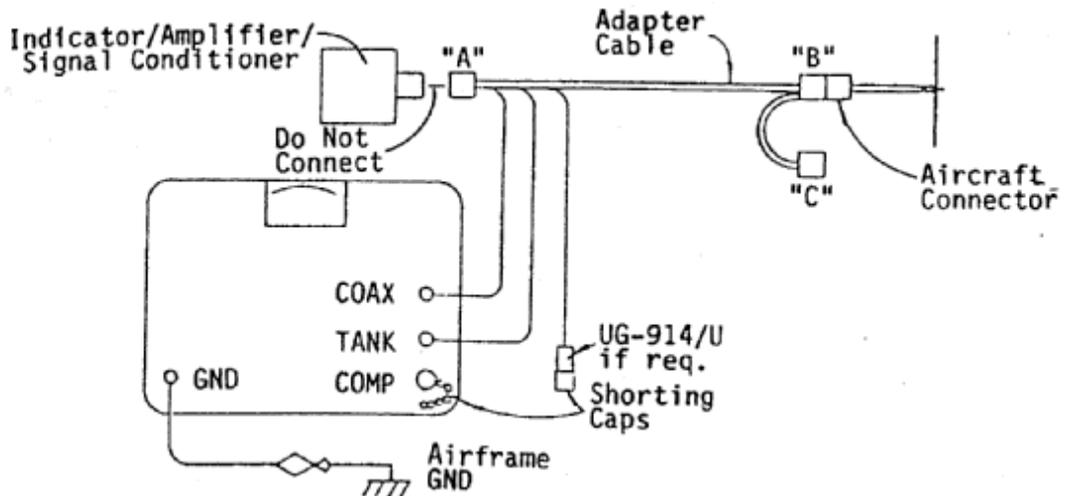

Figure 16 SYSTEM CALIBRATION (METHOD 1), CONFIGURATION #1 (MULTIPLE AIRCRAFT CONNECTORS)
(1) Setting “EMPTY” Adjustment - (Without adapter cables)
(2) Setting “EMPTY” Adjustment - (*With adapter cables*)
- (d) Refer to Figure 16, Figure 17 or Figure 18 and configure the amplifier and the aircraft connector accordingly.
- Figure 16 shows an adapter cable with multiple connectors at the aircraft end. The Tank Unit circuits are wired in one branch to the connector attached to the amplifier.
- (d) Place the test equipment in a convenient location and configure the amplifier, adapter cable, and the aircraft wiring as shown in Figures 16, 17 or 18 according to the system configuration.